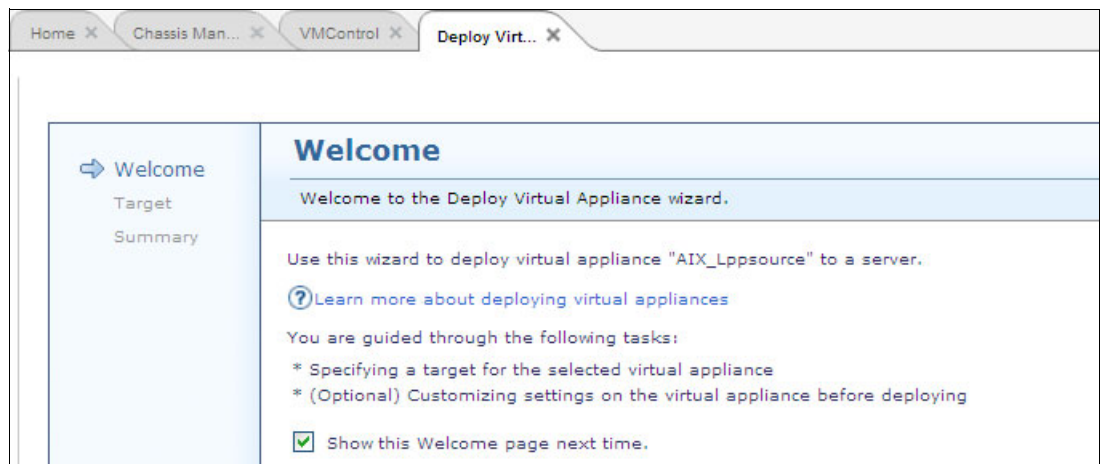

Figure 10-129 Welcome window
3. Figure 10-129 shows the Deploy Virtual Appliance Welcome window. Click **Next**.